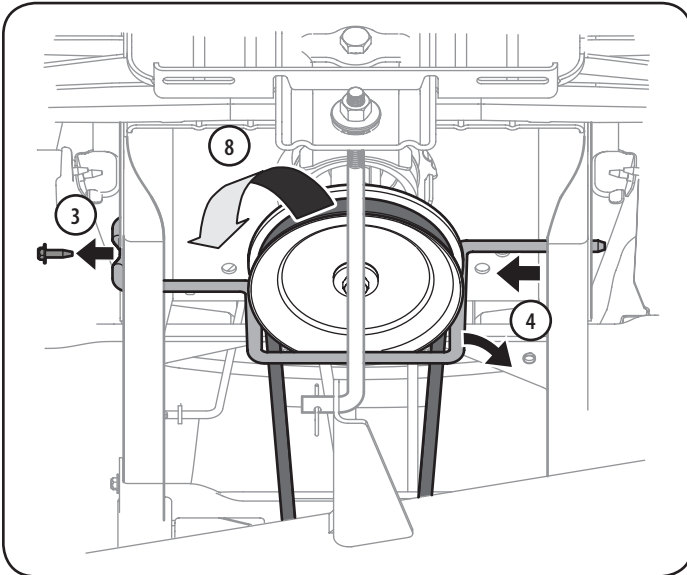

Figure 24
- c. Remove the hex screw securing the engine pulley keeper rod to the frame. See Figure 24.
- d. Slide the rod to the right to remove it. See Figure 24.